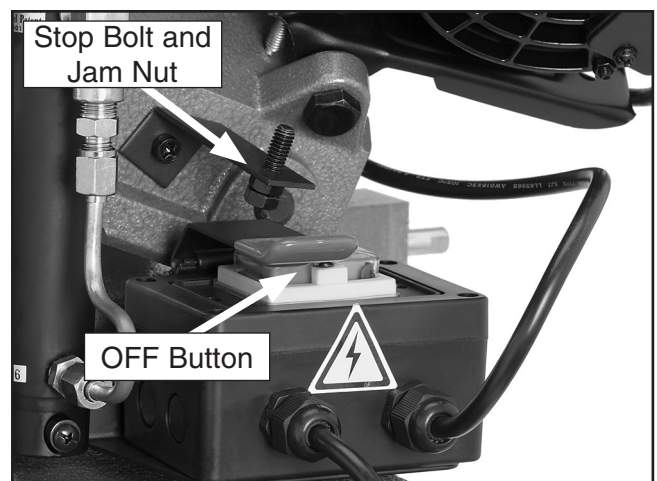

Figure 16. OFF button lever and stop bolt.
1. With the headstock in the complete down position, loosen the 12mm stop bolt and jam nut (see **Figure 16**).